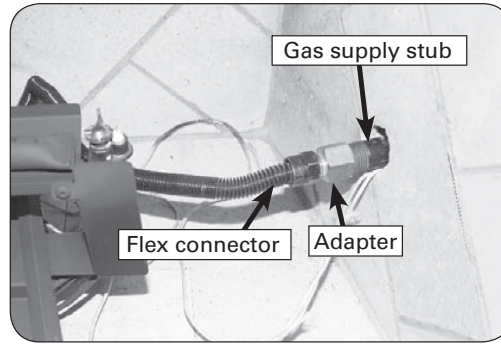

FIGURE 47
10. Be sure gas to the fireplace is off. Remove the adapter connected to the flex connector (pre-installed on the burner system). Attach the adapter to the gas-supply stub using a pipe compound resistant to all gasses. Tighten securely. Then attach the open end of the flex connector to the adapter. Tighten securely. **(Figure 47)**